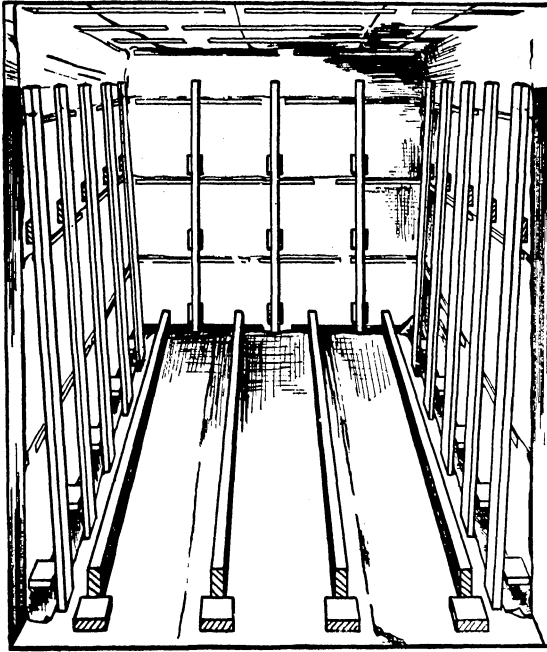

FIG. 7.—False floor stringers and blocks in place
7. Nail 4 of the 2 by 6 inches by 15 feet 6 inches pieces to the floor in each end of the car for stringers to support the false floor, as illustrated in figure 7. This will make a 6-inch space between the car floor and the false floor. Make certain that one end of the studding is tight against the end wall of the car.
8. Spike 2 by 4 by 4 inch blocks securely to the car floor at the end of each stringer as in figure 7. *Caution.*—Do not run a strip across the ends of the stringers from side to side of the car. This is a very common cause of uneven heating, as it blocks a large portion of the warm-air circulation.
5. Nail four pieces of 2 by 6 inch studding to the floor in each end of the car for stringers to support the false floor, as illustrated in figure 7. This will make a 6-inch space between the car floor and the false floor. Make certain that one end of the studding is tight against the car end wall. The stringers should extend from the end wall of the car to about even with the doorposts.